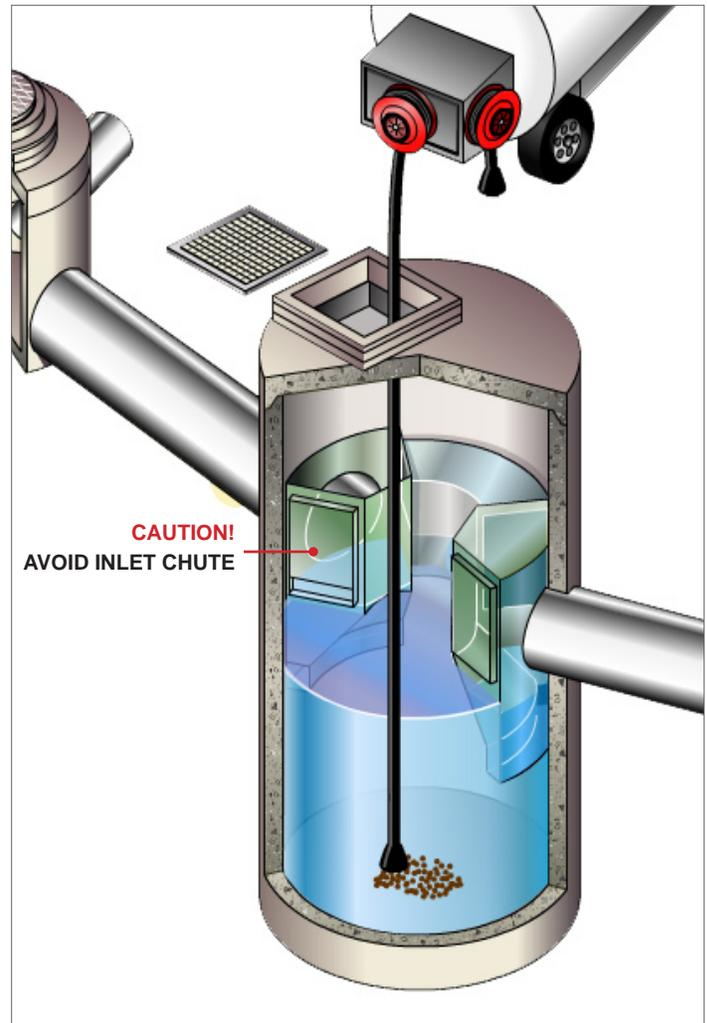

Figure 3: Sediment is removed with a vector hose
6. Once all floatables have been removed, drop the vector hose to the base of the sump. Vector out the sediment and gross debris off the sump floor (Figure 3).